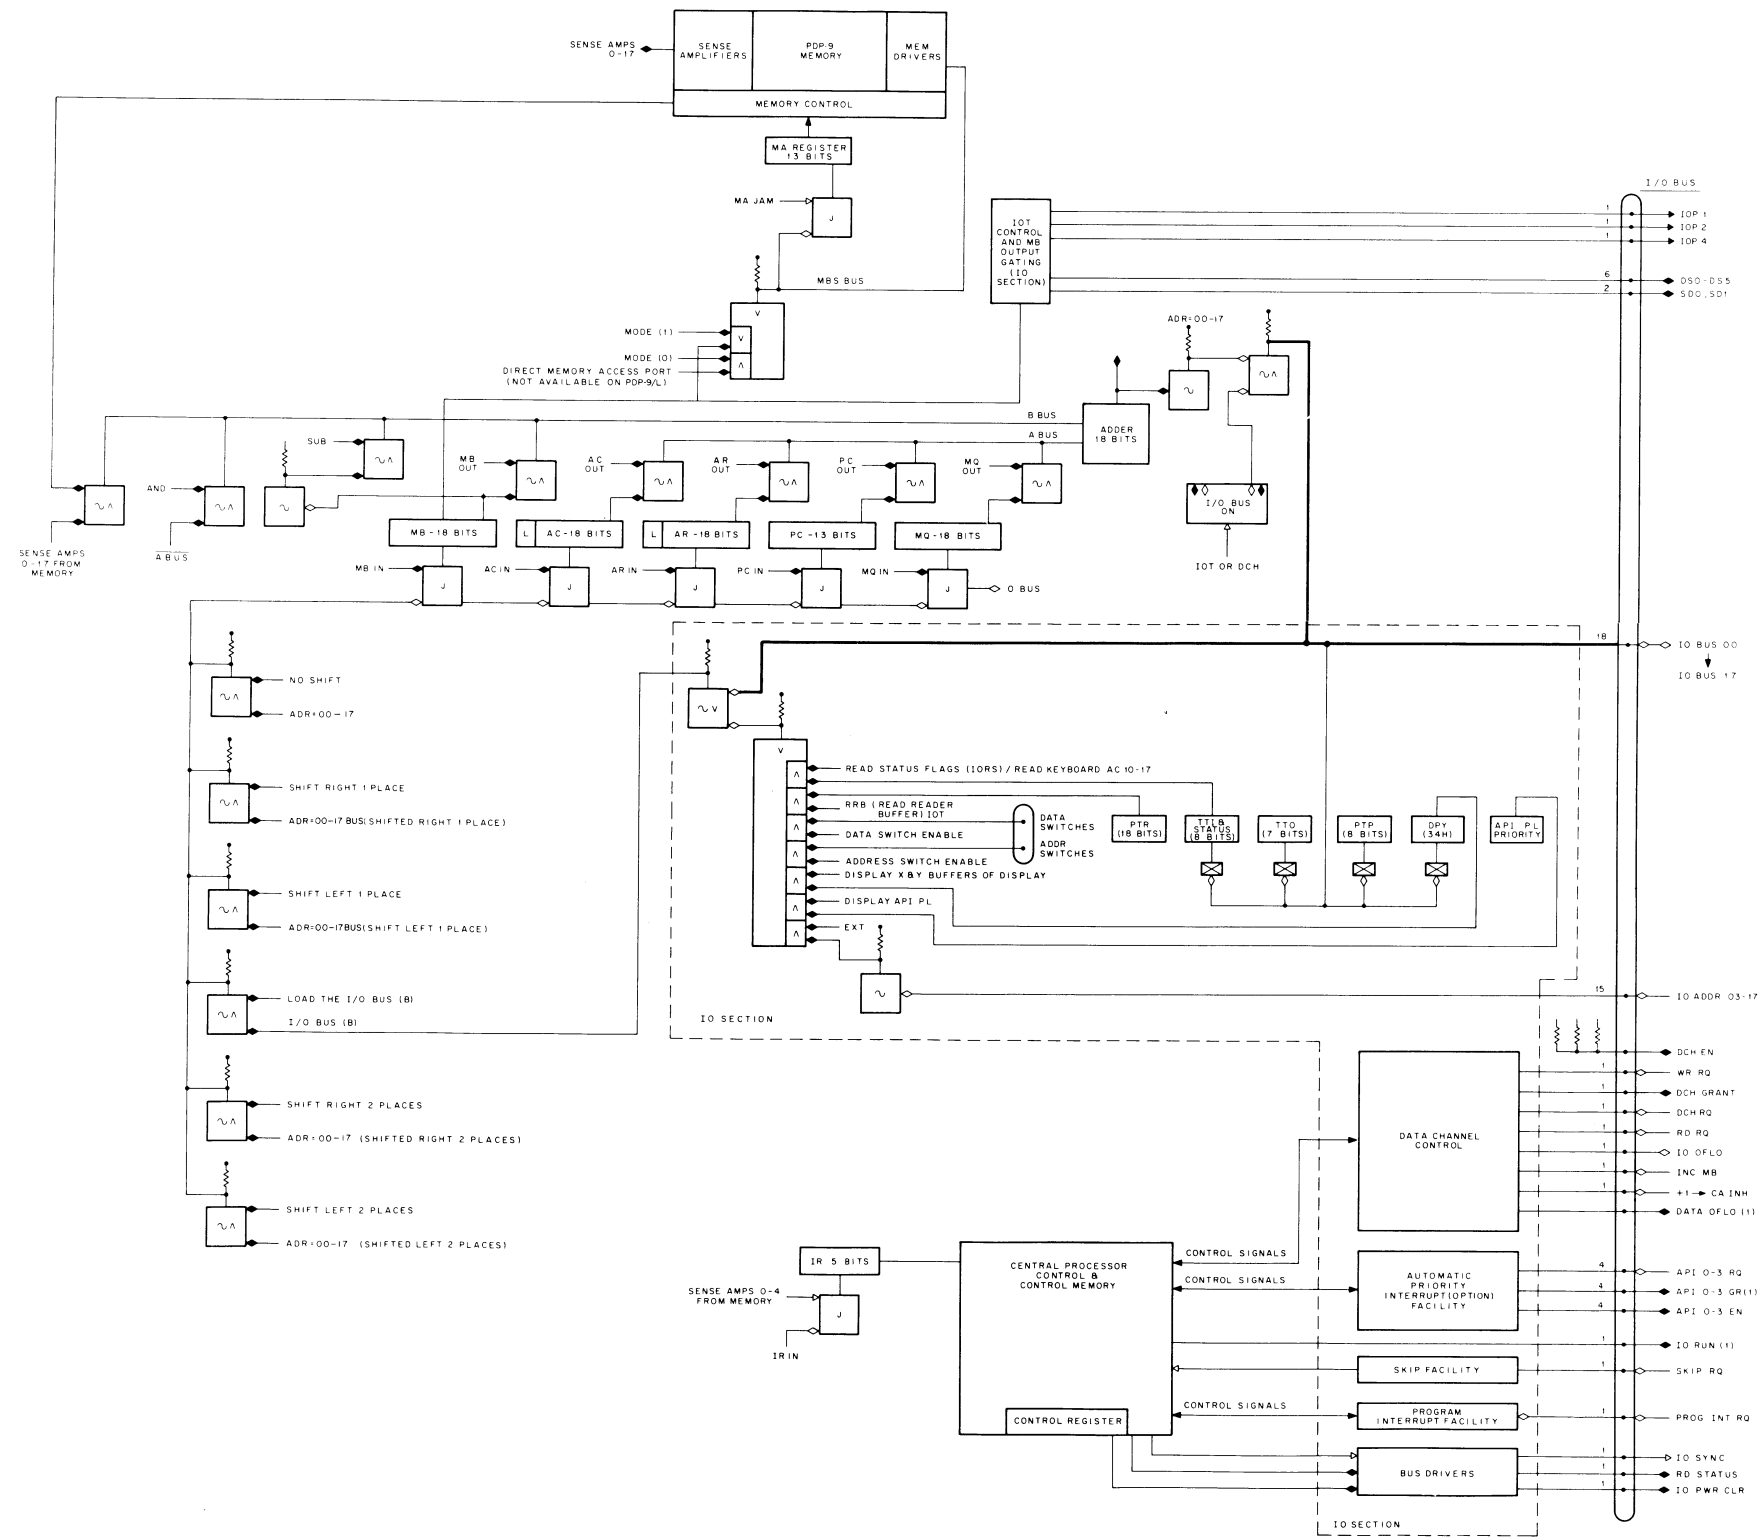
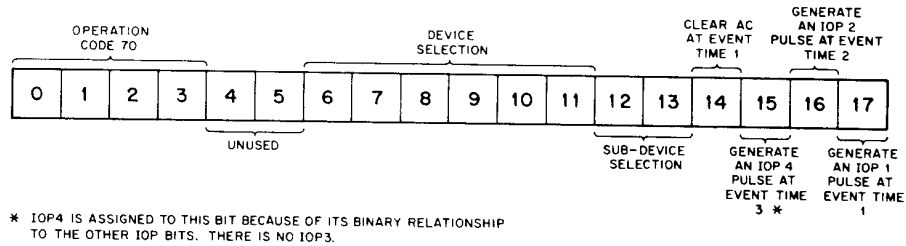

Figure 2-1 CPU Control Elements and Registers
Figure 2-2 PDP-9 IOT Instruction Format
The control elements and registers of the CPU that govern gating of information are described in the following paragraphs. (Refer to Figure 2-1.)
Memory Buffer Register (MB) - All information transferred into, or out of, core memory passes through the 18-bit MB. Information is read from a memory cell into the MB and is rewritten into the cell in one cycle time. Instructions and data are brought from core memory into the MB for processing. The MB also serves as a buffer for information transferred between core memory and the external device in data channel transfers. As an example of operation, the CPU would perform the instruction to add the contents of the MB to those of the AC by issuing the following microinstructions (see Figure 2-1).
2.3.2.1 PDP-9 Memory - PDP-9 core memory (Figure 2-1) operates with a complete cycle time of 1.0 μ s. Each 8192-word core memory module contains a core stack, sense amplifiers, drivers, and a memory address (MA) register. The MA sets up the memory location (address) to be used for data retrieval or storage.
One of the most useful features of both the PDP-9 and PDP-9/L computer systems is the flexible, high capacity input/output facility (Figure 2-1) with which the computers communicate to such DEC peripherals as displays, analog-digital and digital-analog converters, magnetic tape controllers, data communications equipment, disk systems and, for the PDP-9, drums. The design techniques developed for interfacing special systems are simple and inexpensive; for example, it is possible for the PDP-9 and PDP-9/L to communicate with their associated peripherals in two ways:
Both computers communicate with peripheral devices by program control and data channel through the I/O bus which consists of two 36-pair cables with male connectors at both ends. Each peripheral is chain linked to a common interface point at the central processor. Signals between the bus and central processor are shown in Figure 2-1. Each signal is described in detail and some of the computer control logic which serves them is shown in the following section.
IOT Instruction Logic - Input/output (IOT) instructions initiate the transmission of signals through the I/O bus to control peripheral devices, sense their status, and effect transfers between them and the processor. When an IOT instruction is transferred to the MB (Figure 2-1) the computer logic decodes it according to the format shown in Figure 2-2.
When an IOT instruction is decoded in the IR, the following sequence occurs (Figure 2-1).
After the computer has set up the WC and CA registers and has specified the address of the device's first word, it enables the device and returns to its main program. The device then informs the computer via the DCH RQ (data channel request) line when it wants to transfer each word and specifies on I/O ADDR lines (I/O address) its WC address. The CA register automatically becomes WC+1. At any given transfer, the WC and CA locations are incremented by the computer. Then, the word on the bus is passed into the address specified by the contents of CA. If, during the transfer, WC overflows; that is, the last word of the block has been reached, an I/O OFLO (overflow pulse) is transmitted to the device. During DCH transfers, the CP suspends execution of the main program. The MB register is used as a buffer between memory and device (see Figure 2-1).